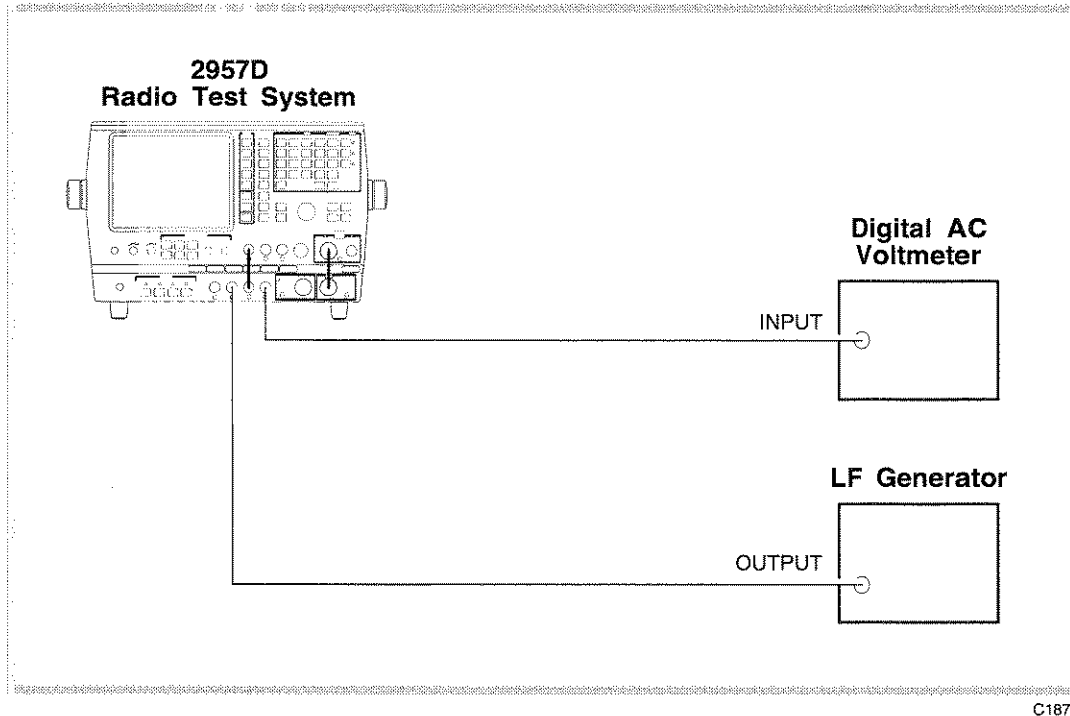

Fig. 5-4 Test equipment connections for psophometric filter test
- (1) Connect the LF synthesizer output socket to the Adapter's AF INPUT socket and connect the Adapter's AF OUT socket to the DVM input socket as shown in Fig. 5-4.
- (2) From MANUAL TEST press CRTS key once, then the 2955 key.
- (3) Set the LF generator to give a 1 kHz sinewave at 2 V RMS.
- (4) Set the DVM to monitor AC voltage.
- (5) Note the reading on the DVM (reading 1).
- (6) Press the PSOH/LOCAL key and check that the LED above this key and that above the 2955 key are both on.
- (7) Note the reading on the DVM (reading 2). This reading should be approximately 2 V.
- (8) Check that reading 2 is within 6% of reading 1.
- (9) With the LF generator at 1 kHz, adjust the LF generator output level until the DVM reads 2.000 V. This sets the reference at 1 kHz.
- (10) Set the LF generator to each of the frequencies given in Table 5-7 and check that the DVM readings fall within the limits given in the right-hand column.
Using the test equipment as shown in Fig. 5-4.